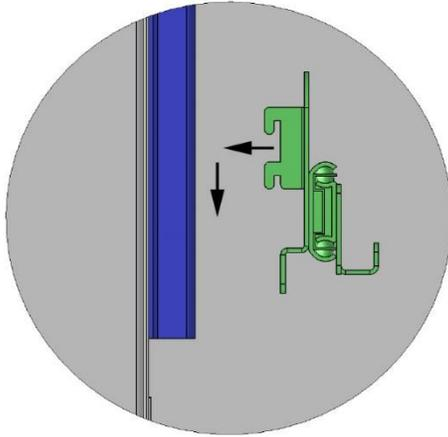

Figure 12: Sliding Shelf Mounting Bracket Installation
1. Insert the sliding bracket's two pairs of tabs (front and back) into the slots on the shelf standards. See Figure 12.